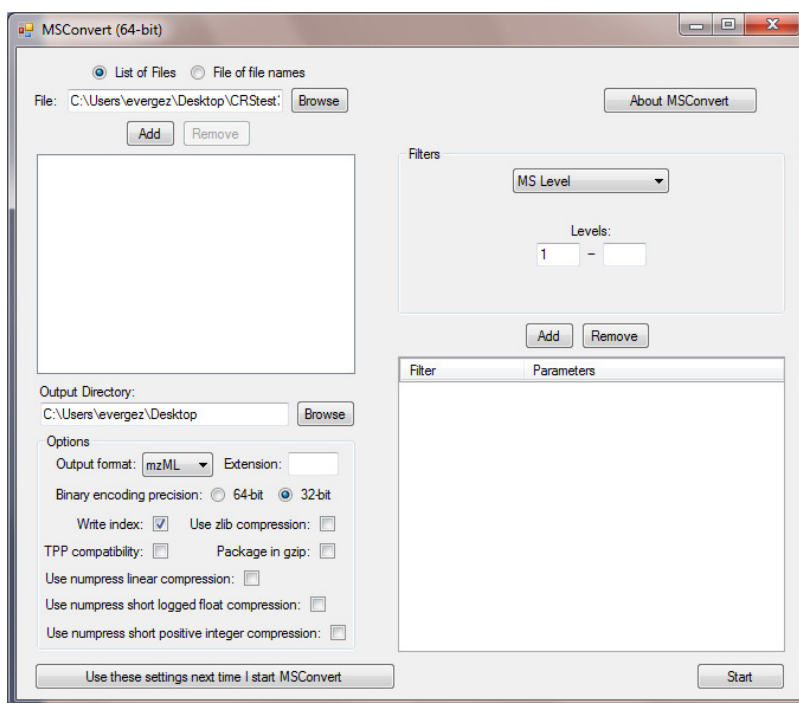

Figure 7.12.11 MS Convert Settings
- c. The user should use the settings shown in Figure 7.12.11 to convert the data file.